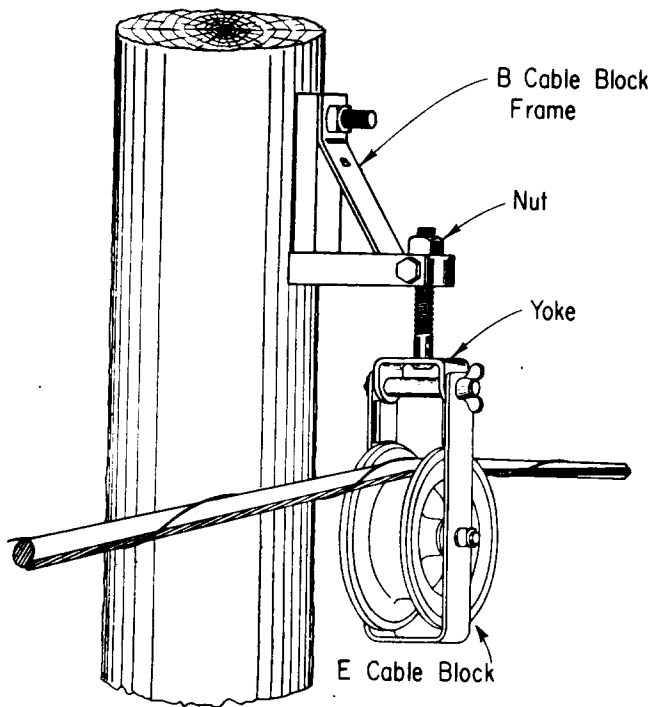

Fig. 8—B Cable Block Frame (With E Cable Block Installed)
6.02 The **B cable block frame** (Fig. 8) is used at the first and last poles of a pull.